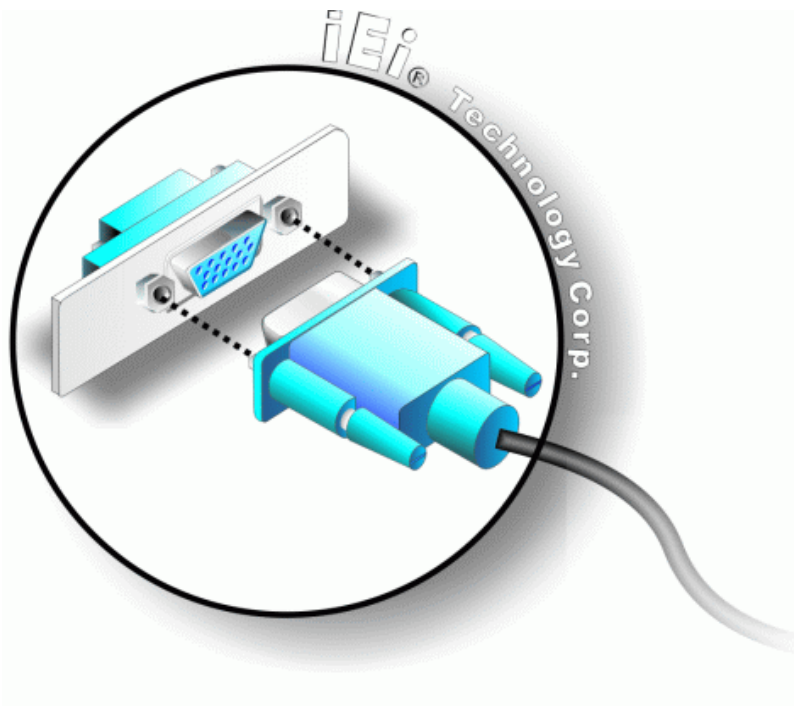

Figure 5-22: VGA Connector
- Step 2:** **Insert the VGA connector.** Insert the DB-15 connector of a VGA monitor into the DB-15 connector on the external peripheral interface. See **Figure 5-22**.